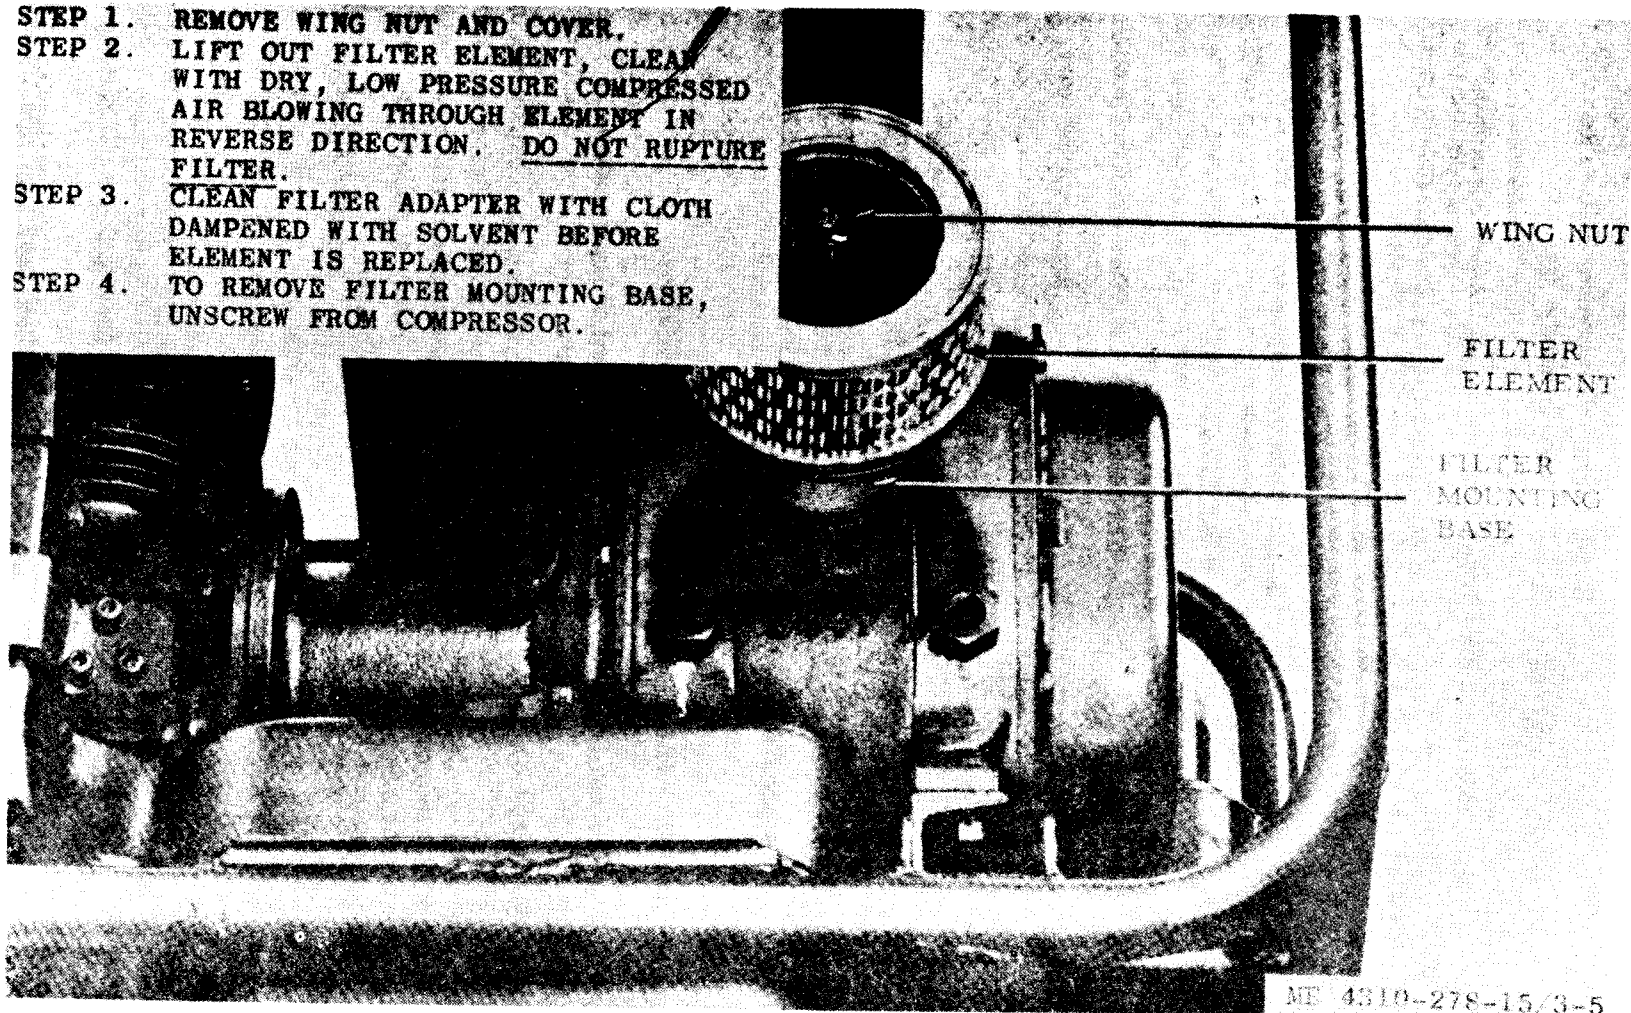

Figure 3-5. Compressor air filter service.
Service air filter as illustrated in figure 3-5.
a. Removal and Disassembly. Refer to figure 3-5 for removal and disassembly of air filter.
(1) Clean the filter element with a stream of clean, dry, low pressure compressed air directed from the inside of the element to the outside. Take care not to rupture the element.
(2) Clean all other parts with an approved cleaning solvent; dry thoroughly.
(3) inspect the filter element for cracks, holes, ruptures, oil saturation, distortion, or other damage; replace a damaged filter.
(4) Inspect the air filter cover for cracks, distortion, or other damage; replace a damaged cover.
(5) Inspect the air filter mounting base for cracks, distortion, damaged threads, or
c. Reassembly and Installation. Refer to figure 3-5 for reassembly and installation of the air filter.